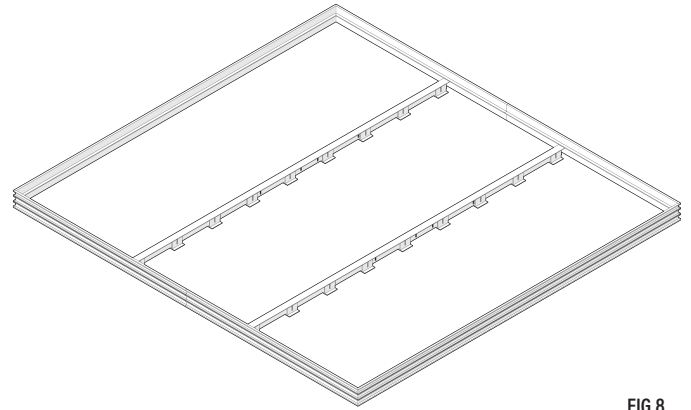

FIG 8
9. Set the cross support(s) into position(s), making sure to space approximately 3 feet apart, as shown in FIG 8. Note: in some cases, cross-supports may be individually labeled and must be in the correct location as shown on the drawings.